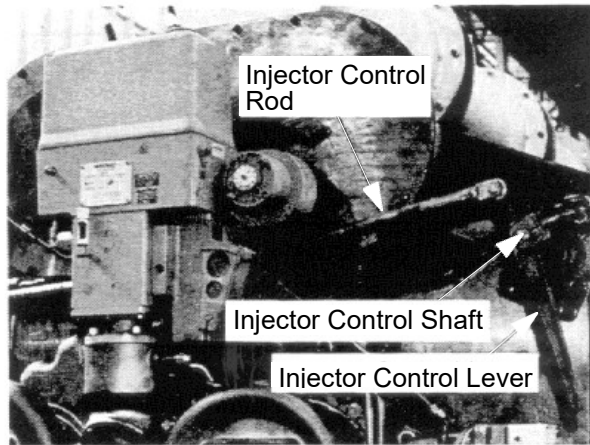

Figure 11-9. MUI Injector Linkage .
The MUI injector linkage, Figure 11-9., on page 11-12, consists of the mechanical arrangement between the governor and the injector permitting all injector rack positions to be changed simultaneously when the governor terminal shaft is rotated. Two injector control rods connect the lever on the governor terminal shaft to the injector control shafts. The injector control shafts, one for each bank, extend the length of the cylinder banks under the cylinder head cover frames. At each cylinder location, a lever is pinned to the control shaft. An adjusting link connects the control shaft lever to an injector control lever mounted on the cylinder head, one end of which straddles the ball at the end of the injector rack.
4. Place the gauge over the injector rack and hold the gauge firmly against the face of the calibrating slide on the injector, Figure 11-12, and check the gauge pointer. If the pointer is at the short (“S”) end of gauge scale, outside of the setting range, the rack is not extending out far enough from the injector. Loosen the locknut on the adjusting link, Figure 11-9., on page 11-12, and turn adjusting nut on link until pointer is at the long (“L”) end of the scale; then reverse pointer travel until it is within the scale setting range. Hold the adjusting nut and tighten the locknut. The reason for exceeding the setting range when making adjustment is so that, in setting all the racks, the backlash will be taken up in the same direction.